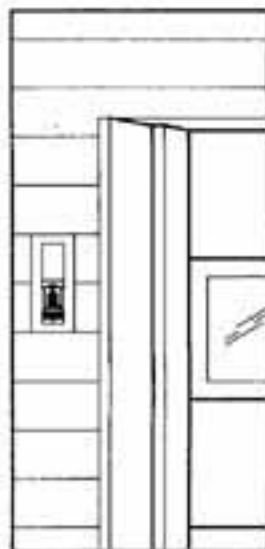

Fig. 1
- Step 1-1** Mount Wireless Keypad on a flat vertical surface with enough room above to slide cover up. Pick location out of path of moving garage door and supporting hardware **Fig. 1**.